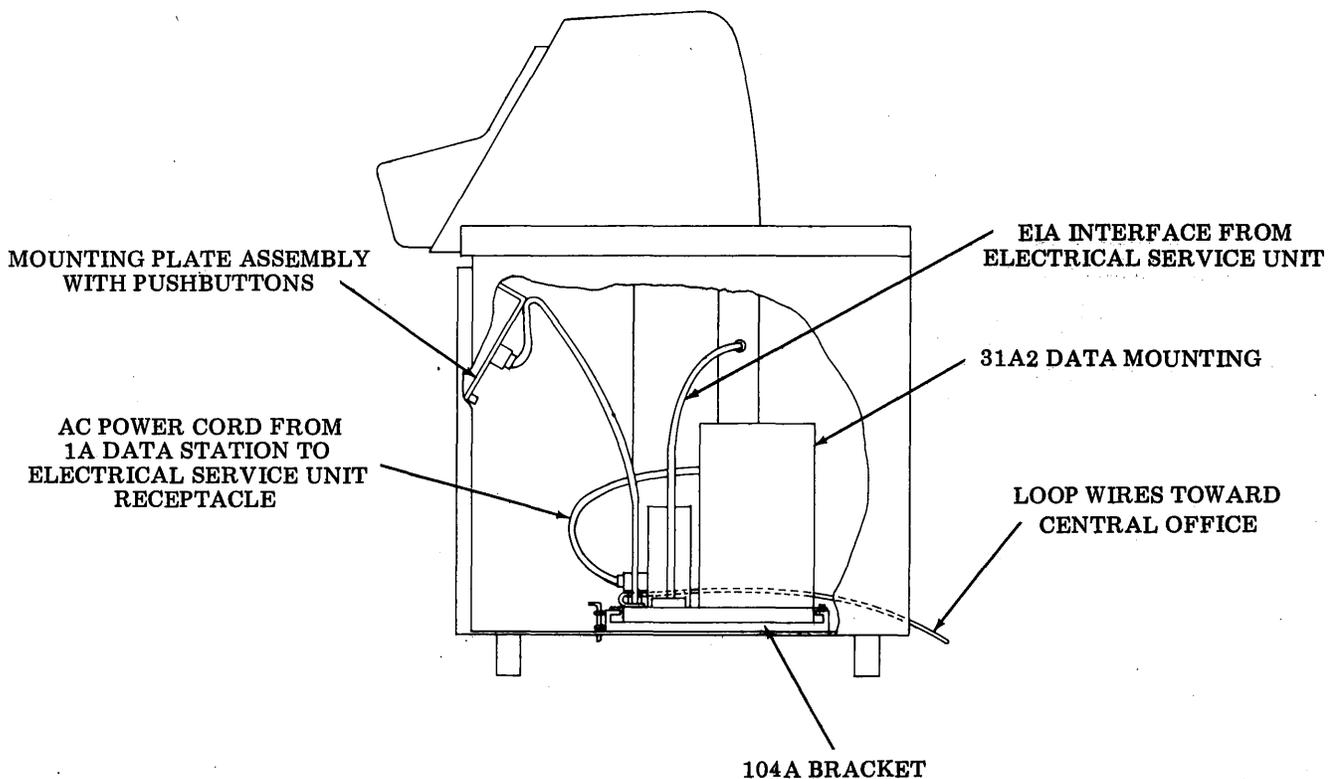

Figure 5 - 1A Data Station Mounted in Model 37 Teletypewriter
2.08 To install the 1A Data Station into the right pedestal of the table, perform the following procedure (see Figure 5):
(g) Direct the cables as shown in Figure 5.